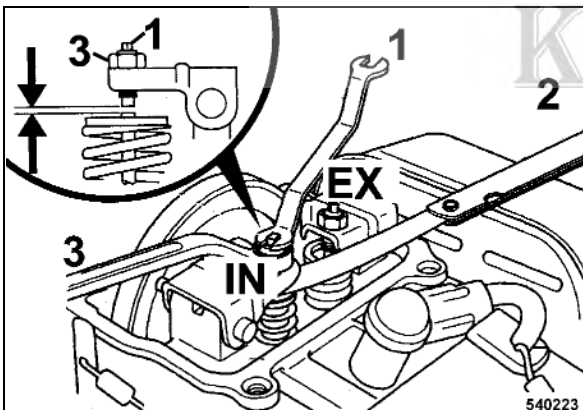

Fig. 49
- To adjust the valve hold valve adjustment screw (1) (Fig. 49) and slacken locking screw (2).